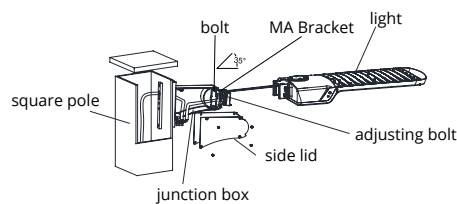

Figure 1
- 5 Refer to attached wiring diagram to complete connections. (Figure 1)